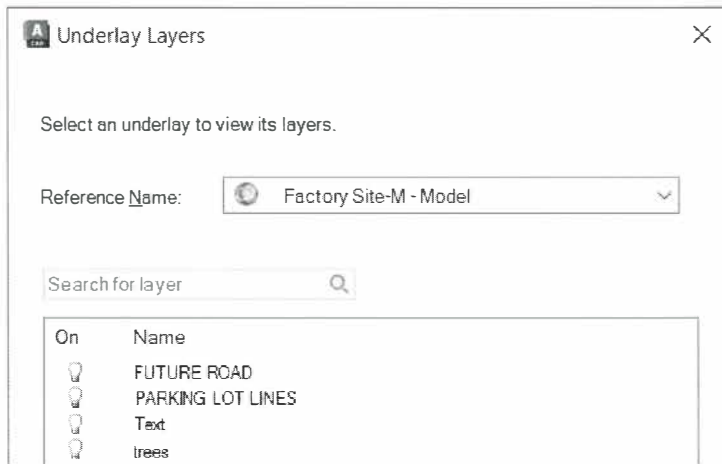

Figure 11–29
- Layer visibility can be controlled in DWF underlays (as shown in Figure 11–29), if the DWF file was created with the layers toggled on. When you have selected a DWF underlay, in the *DWF underlay* contextual tab, select **Edit Layers**. In the Underlay Layers dialog box, select the layers you want to toggle on or off and click **OK**.